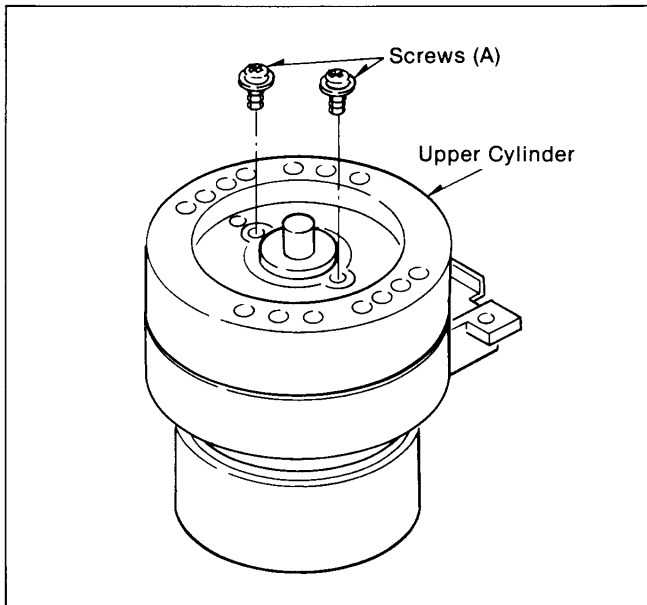
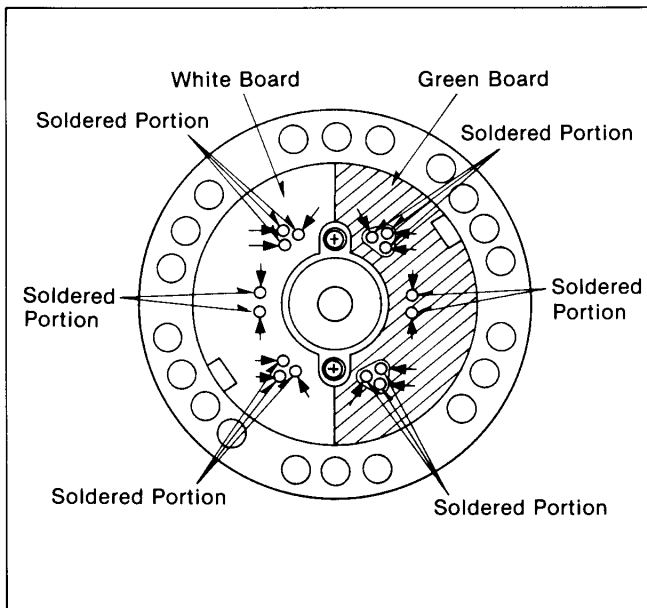

Figure M5
Figure M6
1. First remove two screws as shown in Figure M5. Then unsolder 16 (Figure M6) of the soldered portions indicated by arrows on the Upper Cylinder, and finally remove the Upper Cylinder.